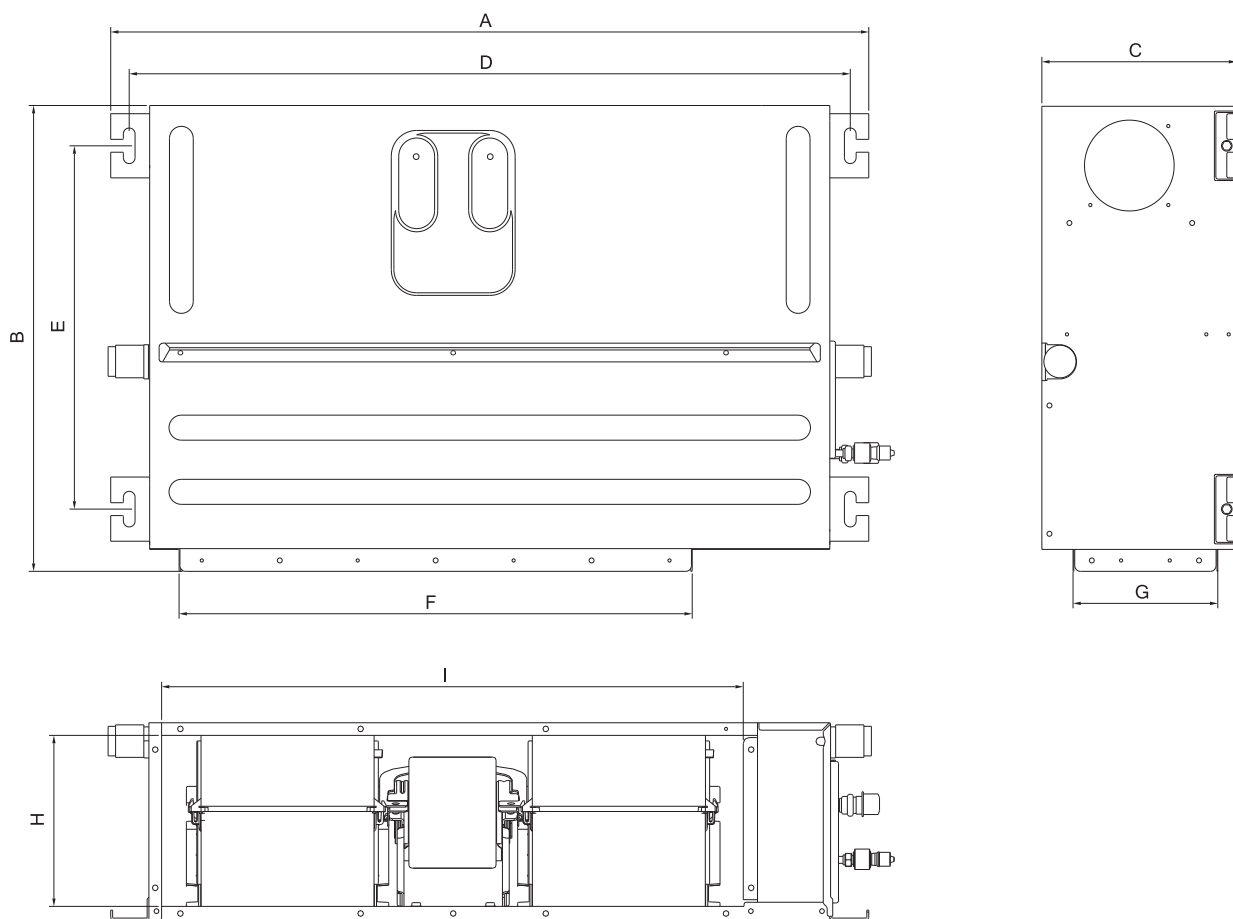
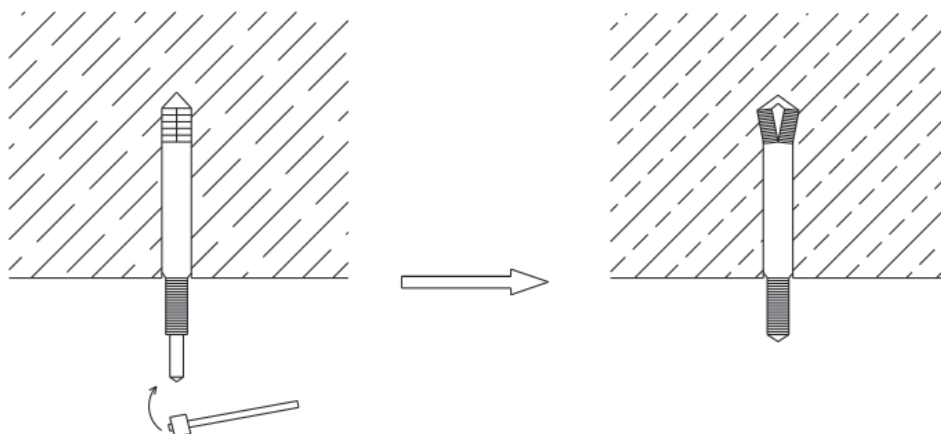

Fig 1
Fig 3
- Insert M10 Expansion bolts into mountingholes and then drive iron nails into bolts, see Fig 3.As for the hole intervals, please refer to Fig 1.